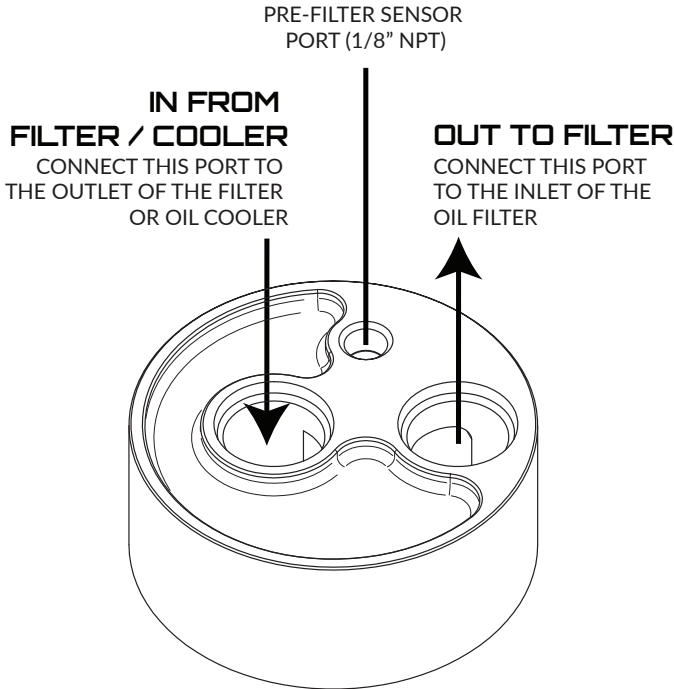
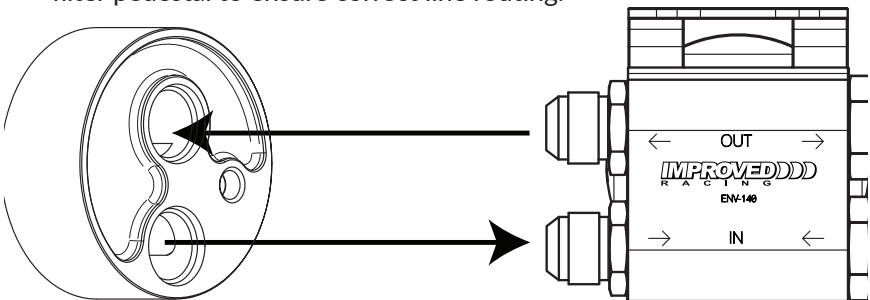
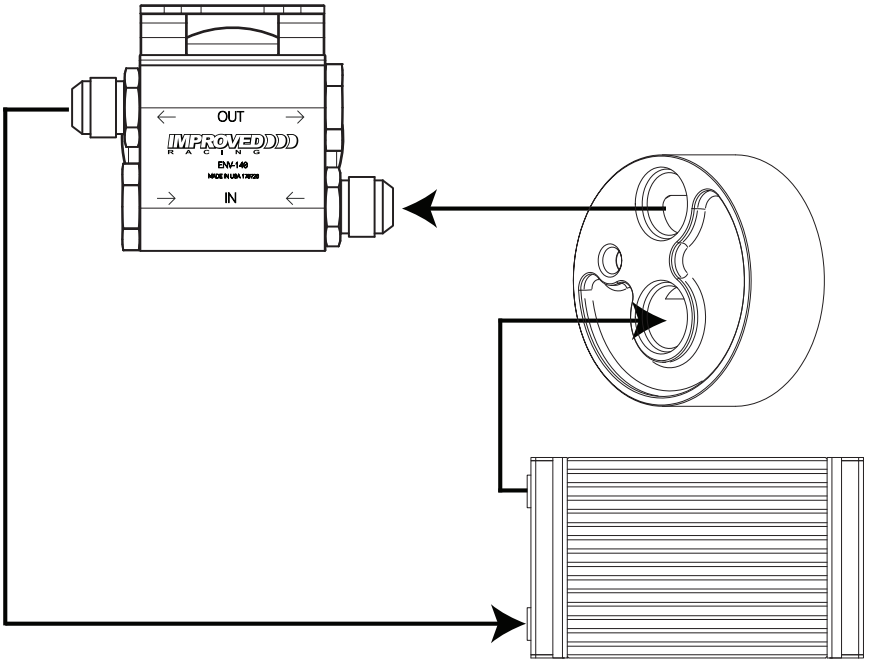

Figure 1 - Port Descriptions
Figure 2 - Remote Oil Filter with No Oil Cooler
Figure 3 - Non-Thermostatic Remote Oil Filter Pedestal with Oil Cooler
1. Note the port identification and directions of flow illustrated in Figure 1
2. Note the three example flow configurations illustrated in Figures 2 through 4. Other filter pedestals will have ports in different configurations. Be sure to carefully identify the IN and OUT ports on your remote filter pedestal to ensure correct line routing.
6. Connect the oil lines to the filter adapter and remote oil filter pedestal. Refer to the port descriptions in Figure 1 and the routing diagram in Figure 2. Torque the fittings to 20 lb-ft (40 N-m).
3. Connect the second oil line to the IN FROM COOLER port on the oil filter pedestal (for thermostatic filter pedestals) or the IN FROM COOLER port on the filter adapter plate (for non-thermostatic filter pedestals). Leave the other end of the line disconnected from the oil cooler so that the cooler can be pre-filled. Refer to the port descriptions in Figure 1 and the routing diagram in Figures 3 and 4. Torque the fittings to 20 lb-ft (40 N-m).